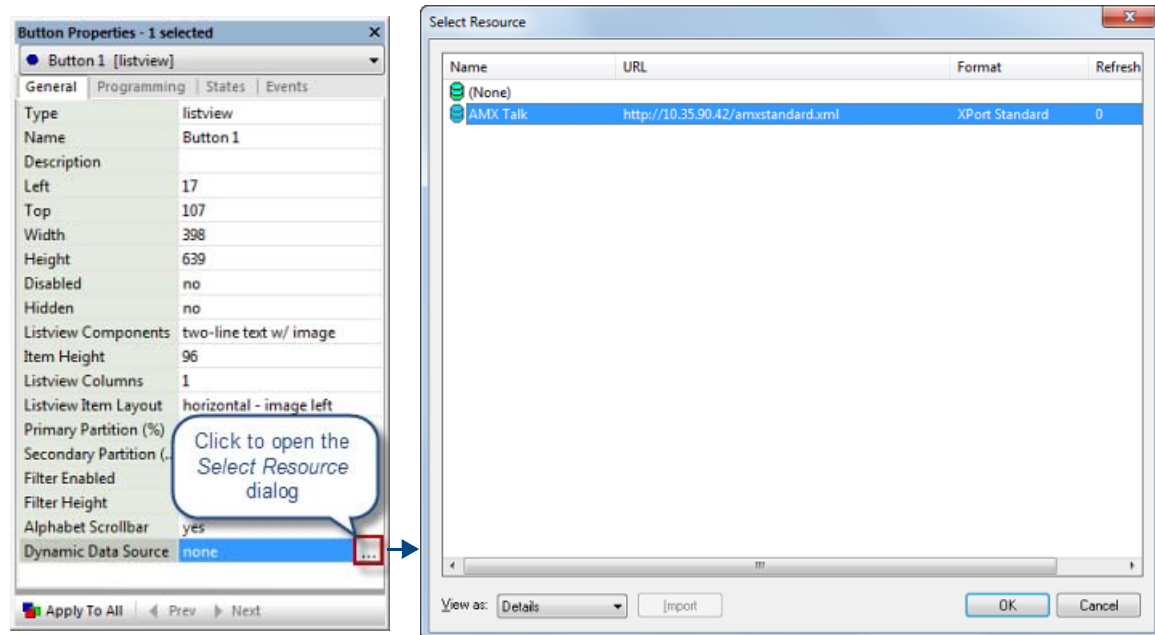

FIG. 194 Dynamic Data Source (General) Property and Select Resource dialog
1. With the Listview button selected, click the browse button in the **Dynamic Data Source** (General) property to open the *Select Resource* dialog (FIG. 194):